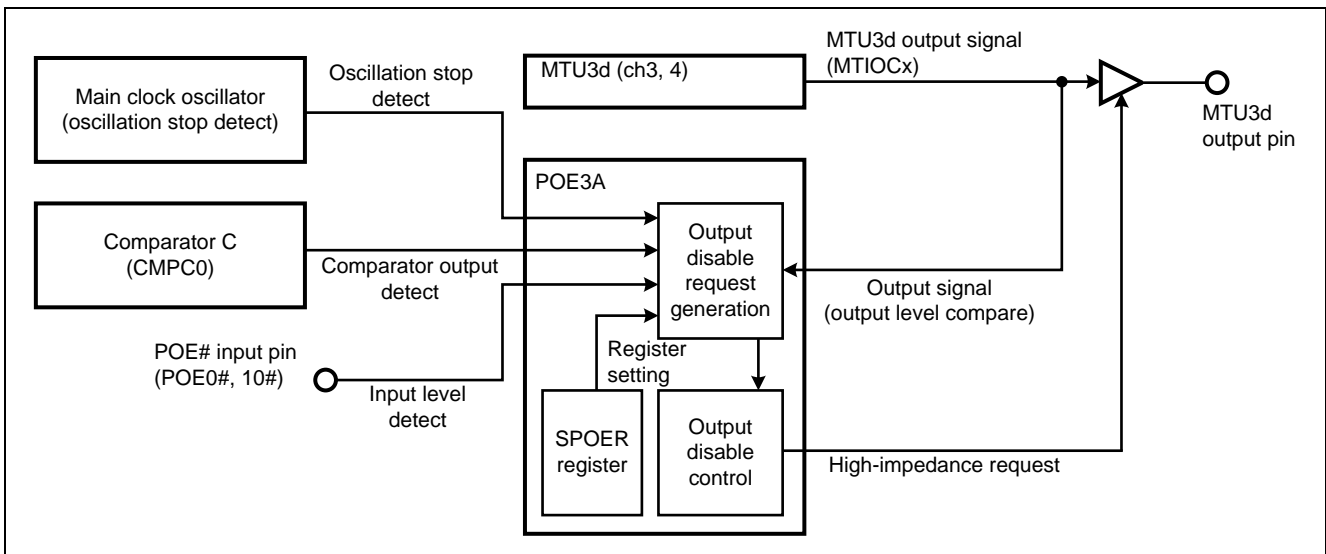

Figure 1.1 System Overview Diagram
- When one of the output disable sources (input level detect, output level compare, register setting, comparator output detect, or oscillation stop detect) shown in Figure 1.1, System Overview Diagram, is detected, the PWM output pin enters the Hi-Z state.
Figure 1.1 is a System Overview Diagram. The pins used are listed in Table 3.1, Pins Used and Their Functions, and the operation of the software is described in 4.1, Operation Overview.